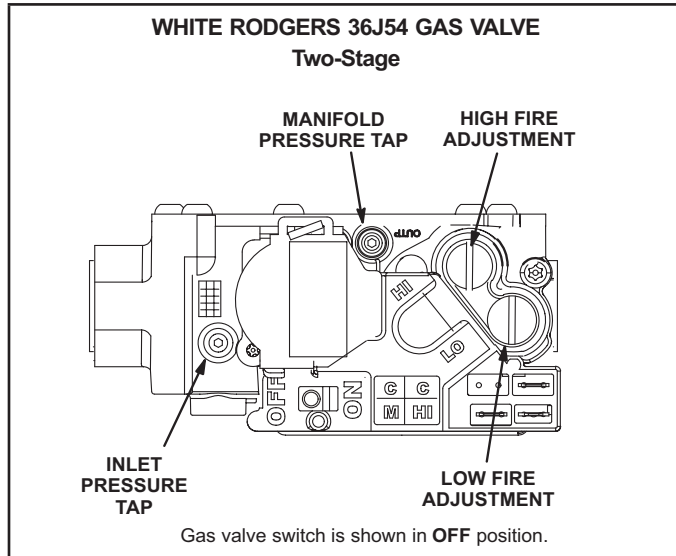
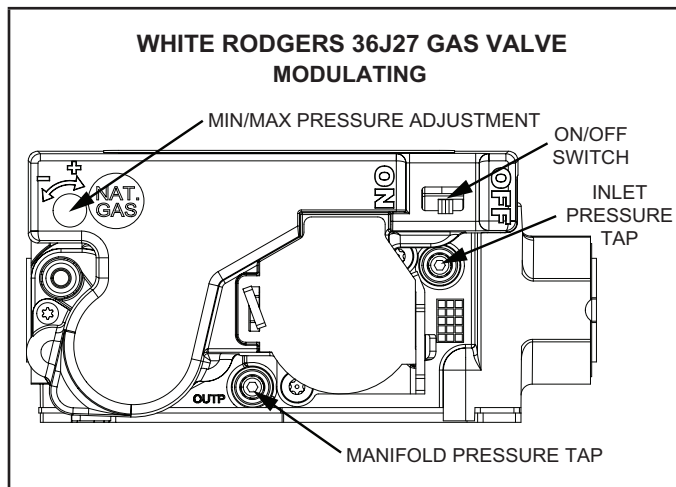

Figure 31
Figure 32
5. Move gas valve switch to **OFF**. See Figure 31 and Figure 32.
6. Wait five (5) minutes to clear out any gas. If you then smell gas, **STOP!** Immediately call your gas supplier from a neighbor's phone. Follow the gas supplier's instructions. If you do not smell gas, go to the next step.
7. Move gas valve switch to **ON**. See Figure 31 and Figure 32.